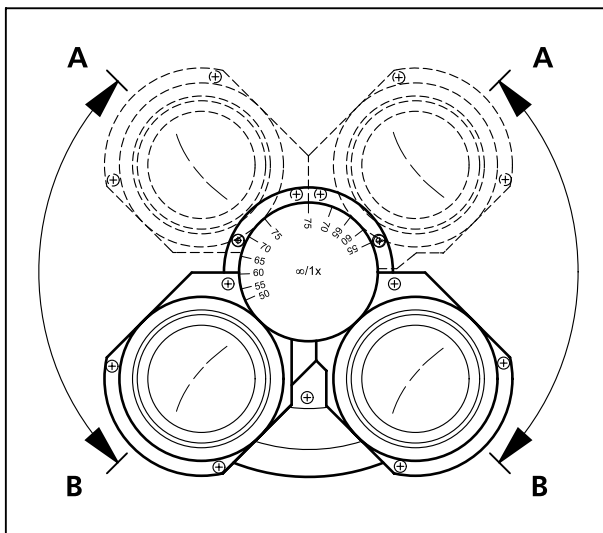

Fig. 13 Adjusting the viewing height
- Swivel the eyepiece tubes upward (Fig. 13/A) or downward (Fig. 13/B) to adjust the viewing height to your individual requirements.